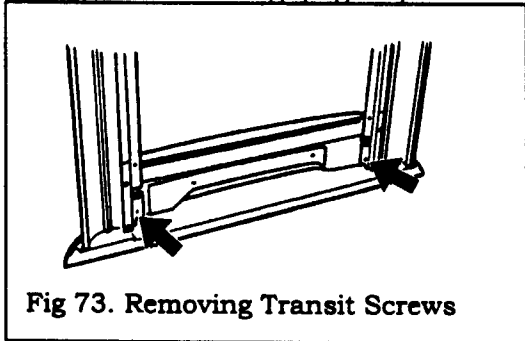

Fig 73. Removing Transit Screws
19.2.7 Important: Remove the transit screws from the lower casting. (Fig 73.)